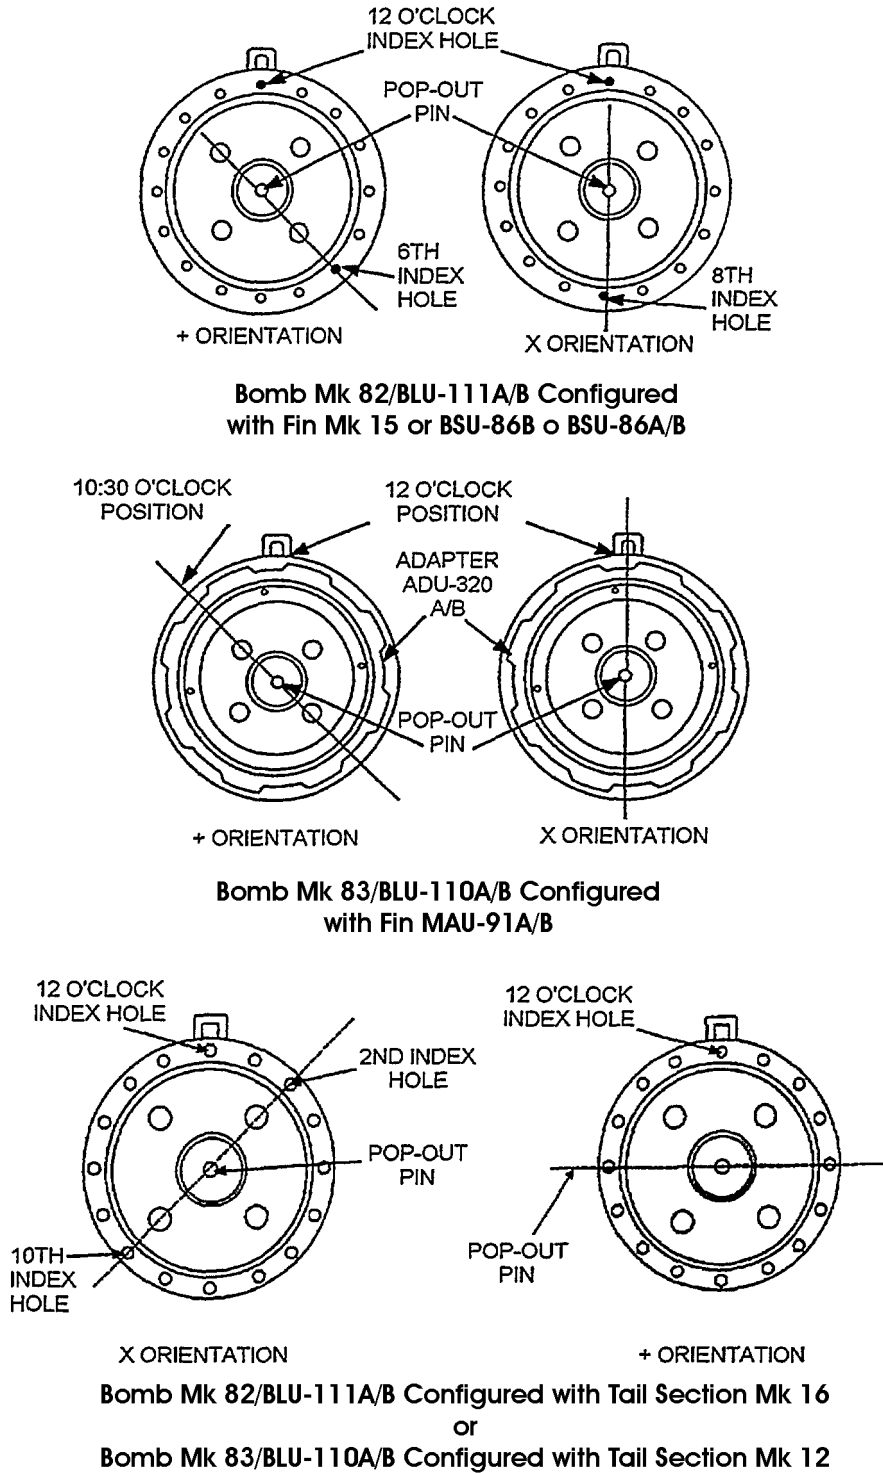

Figure 4-3B. Pop-Out Pin Hole Orientation (TDD)
- (2) Fit-test by placing new preformed packing in groove on underside of TDD flange. If packing does not lie in groove as required, remove it and stretch until it does; then remove packing from groove.
- (3) Using PPE per MSDS, apply a liberal amount of grease in the groove of the flange.
- (4) Using PPE per MSDS, grease the preformed packing (fit-tested above) and install it in its groove; then spread the excess grease over packing, smoothing it out so that it aids in retaining the packing in groove.
- l. Align arming wire hole in pop-out pin for + or X fin orientation (**Figure 4-3B**) by turning TDD clockwise. TDD must rotate so that cotter pin is in lower safety pin hole of pop-out pin as shown in **Figure 4-3B**.